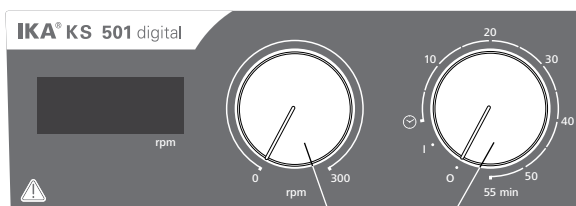

Fig. 3
- ☞ To switch the device on, turn the "**On/Off**" and "**Timer**" rotary knob (**B**, see **Fig. 3**) clockwise to the "**1**" position.
- ☞ Set the motor speed by turning the "**Speed**" rotary knob (**C**, see **Fig. 3**). The motor speed can be set to between 0 to 300 rpm.